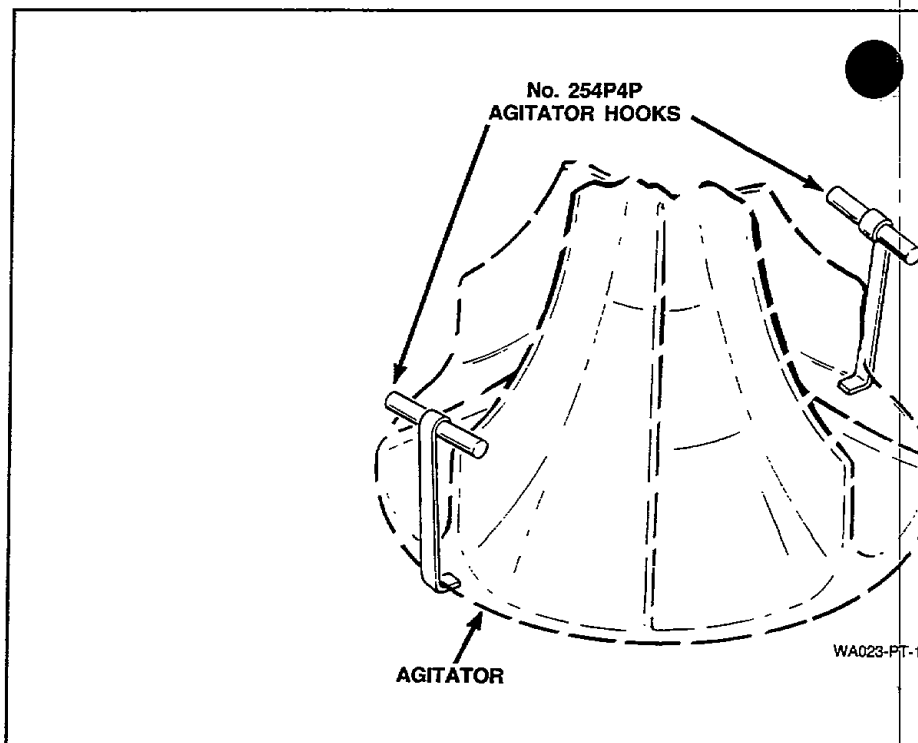

Figure 17
- b. To remove the agitator by hand, place two agitator hooks, No. 254P4P, under the bottom edge of the agitator, *Figure 17*.